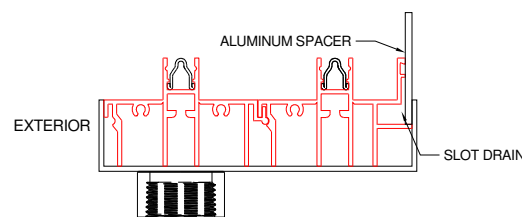

Figure 5:
1. Place sill in Arche-Duct as shown in Figure 5.